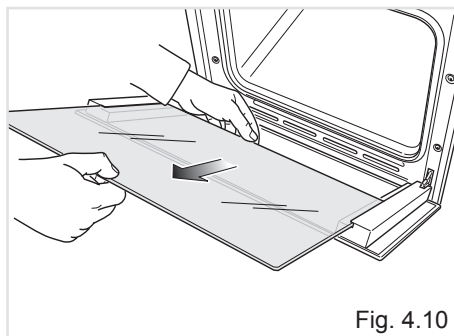

Fig. 4.10
- Gently pull out the inner pane of glass (Fig. 4.10).